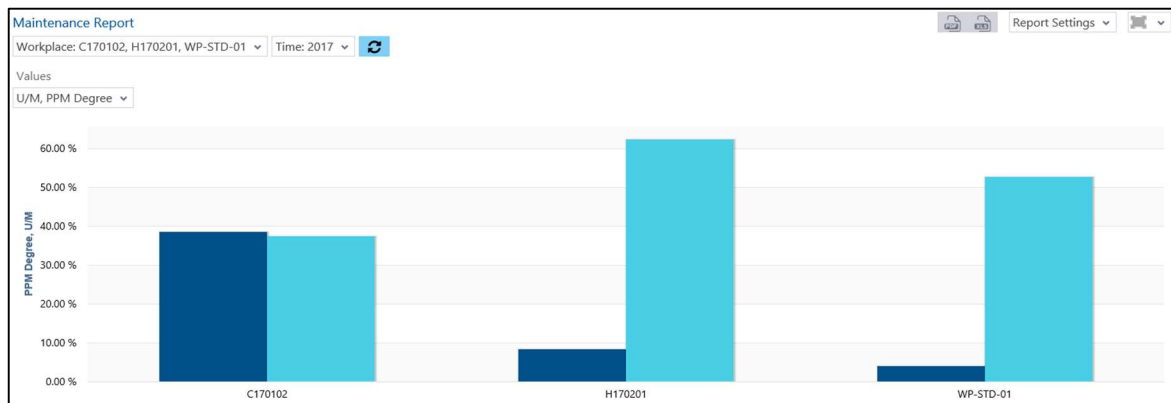

Fig. 146: Maintenance Report as a column chart
- Maintenance Report as a column chart (Fig. 146):